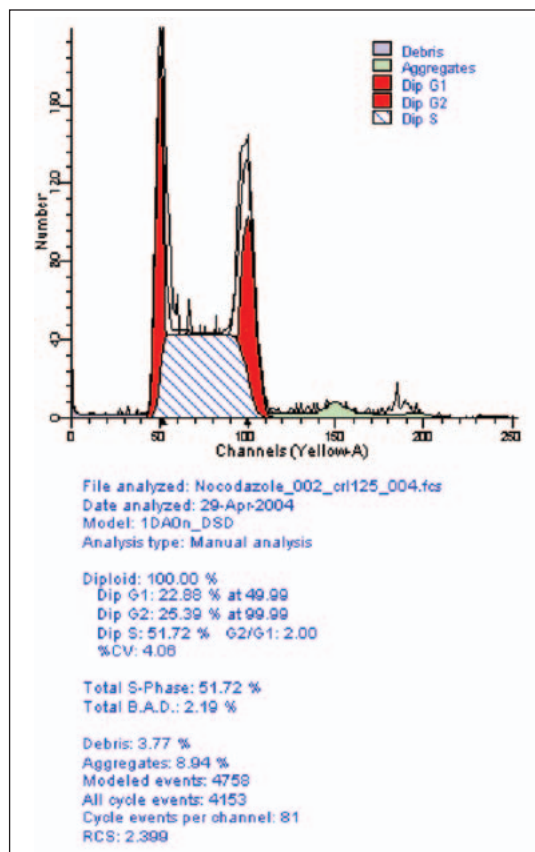

Figure 18
- ModFit LT displays the results of the cell-cycle analysis in a report (**Figure 18**).